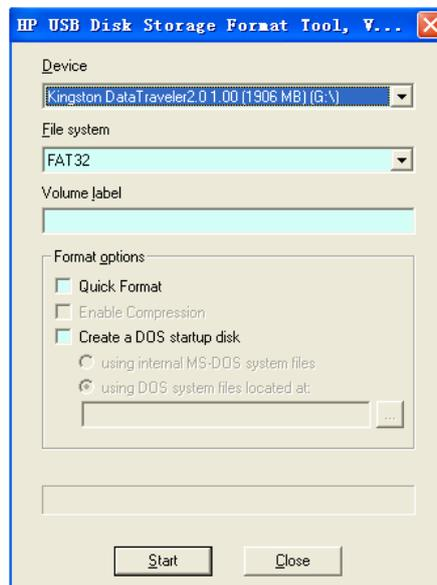

Fig. 4-1 USB format tool
- 1) Insert an USB into the PC, and double click file "HPUSBFW.EXE" in file folder "hpUpgsh" on the desktop of PC. An interface as shown in Fig. 4-1 will pop up.